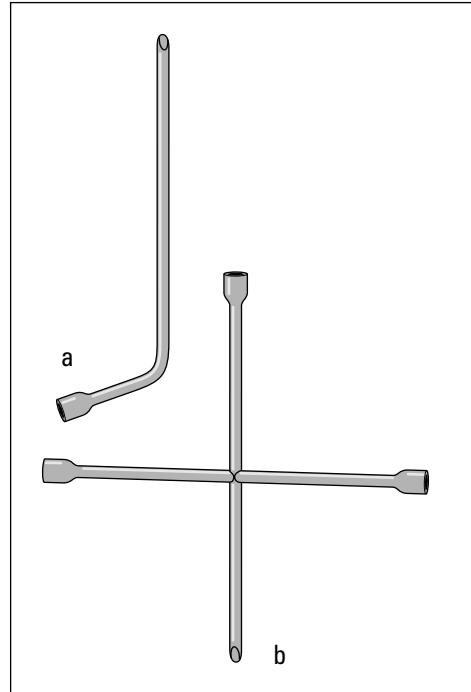

Figure 3-16: Lug wrenches: Single-shaft (a) and cross-shaft (b).
- ✓ **Lug wrench:** A **lug wrench** is sometimes provided, along with a jack, on new vehicles (see Figure 3-16). You use it to remove the wheel or **lug nuts** when you change a tire. If you buy a lug wrench, get the cross-shaft kind, which gives you more leverage. If your vehicle has **alloy wheels** with lovely, shiny chrome lug nuts, be sure your wrench is the right size and type so that it doesn't scratch them. (Chapter 1 has instructions for using a lug wrench.)